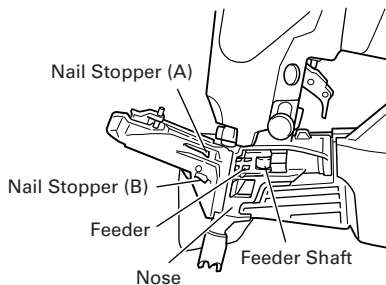

Fig. 18
(2) Open the nail guide and remove dust, etc., as shown in Fig. 18. Apply lubricant to the sliding groove of the feeder and feeder shaft. Check nail stopper (A) and nail stopper (B) slide smoothly by pushing them with your finger.